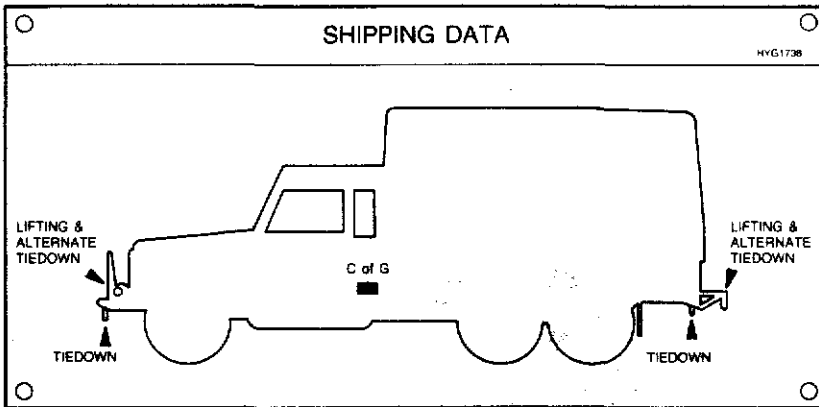

Figure 1-21 Shipping data plate
97. Shipping data plate (Fig. 1-21)